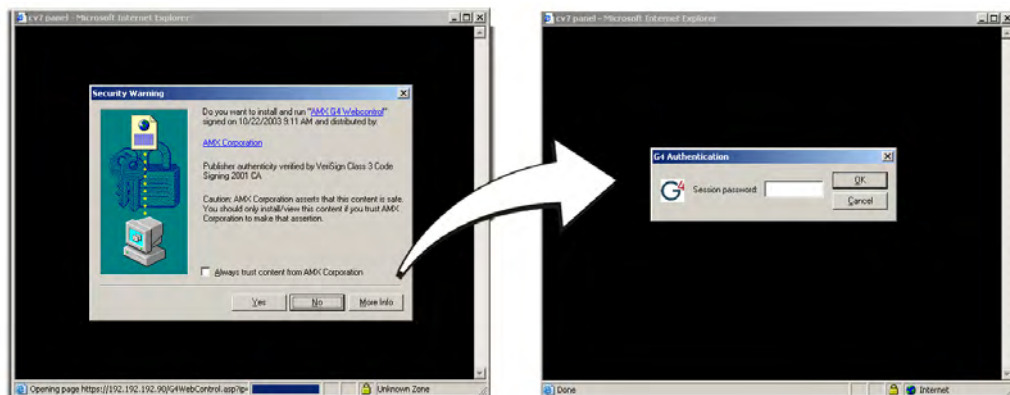

FIG. 34 Web Control VNC installation and Password entry screens
6. Click on the G4 panel name link associated with the target panel. A secondary web browser window appears on the screen (FIG. 34).